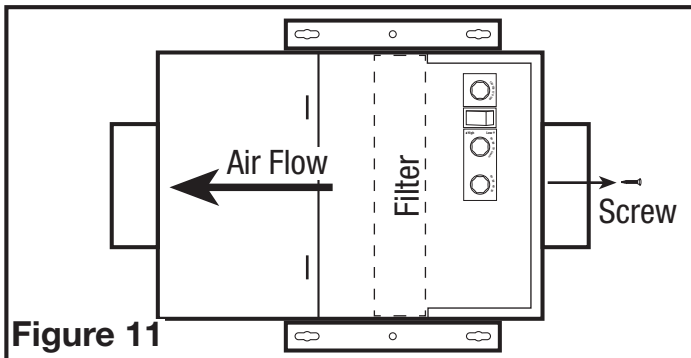

Figure 11
- Ensure the filter is facing the correct way and slide the filter into the slot in the housing. Make sure the filter is seated all the way to the bottom of the housing (**Figure 11**).